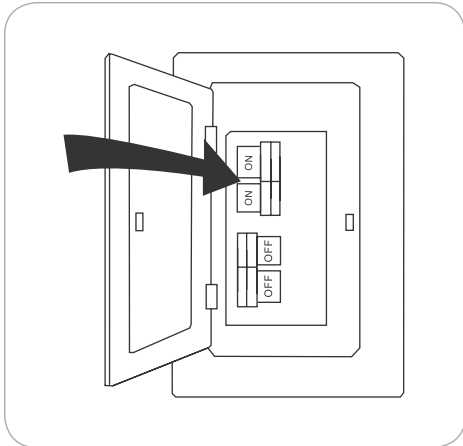

Figure 5.10
10. Turn on power to fan at breaker box and the wall switch (Figure 5.10). Assembly is complete.